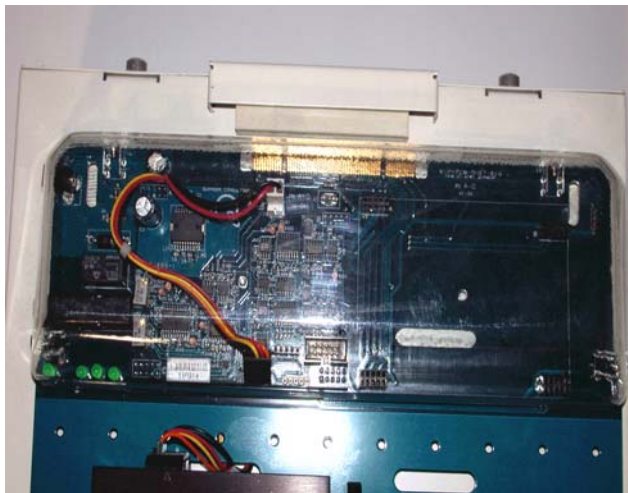

Figure 2 Fasten QNET Module onto ELVIS
- b) Slide the PCI connector of the QNET module end into the female connector of the NI ELVIS workstation, as shown in Figure 2.